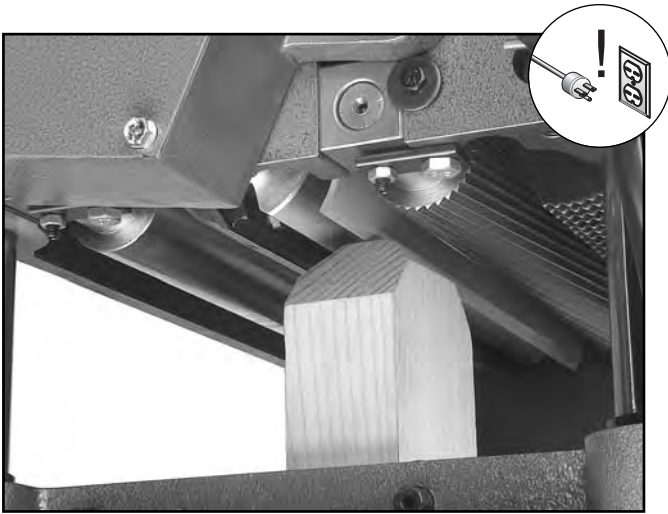

Figure 35. Gauge block under chip breaker.
- Remove the feeler gauge and slide the gauge block under the chip breaker. **See Figure 35**. The chip breaker should just touch the top of the gauge block. Slide the gauge block to the opposite end of the chip breaker and check it in the same manner.